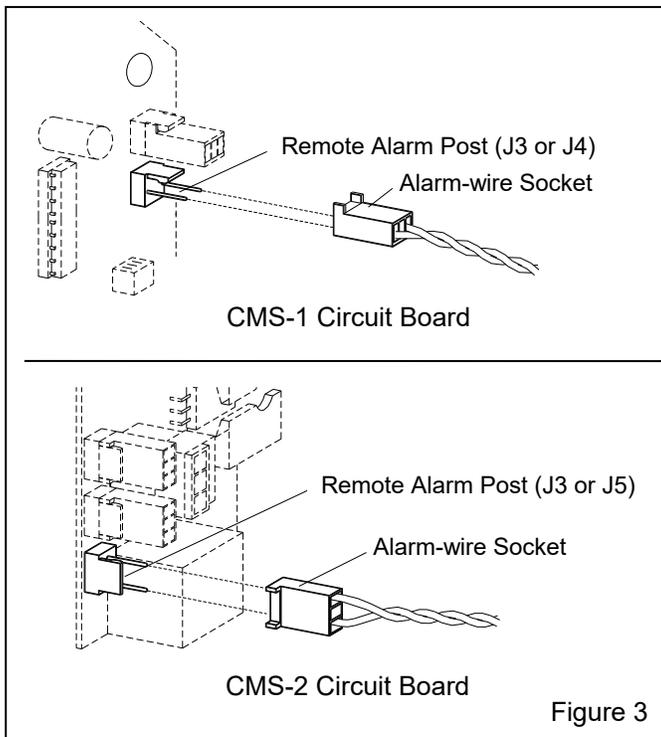

Figure 3
2.6 Plug the alarm-wire socket onto the unused alarm post (J3 or J4 on CMS-1) (J3 or J5 on CMS-2) located on the circuit board, as shown in Figure 3.